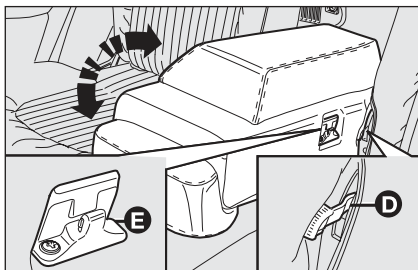

fig. 42
- operate the lever **D**-fig. 42 (one per side)
To arrange the central unit back in vertical position, operate lever **D**-fig. 42 again (one on each side) and realign the unit with the side backrests and make the safety clip **E**click.